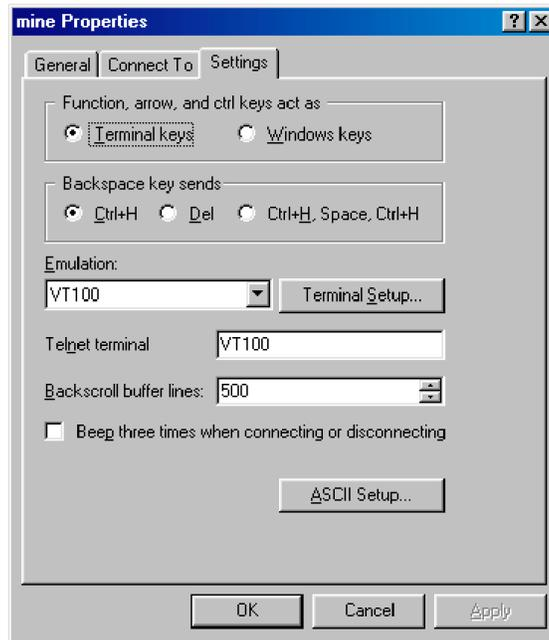

Figure 40. Terminal keys configuration
- Configure the Settings for *Function, arrow and ctrl keys act as* to *Terminal keys* as shown in figure 40.